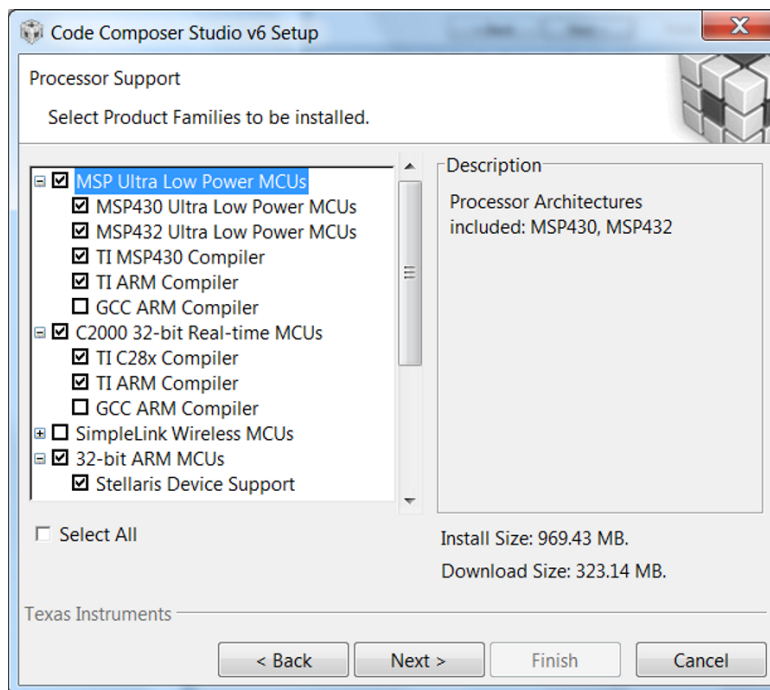

Figure 10. Processors Supported by CCS
Step 4. Choose the processor architectures to install (see Figure 10).